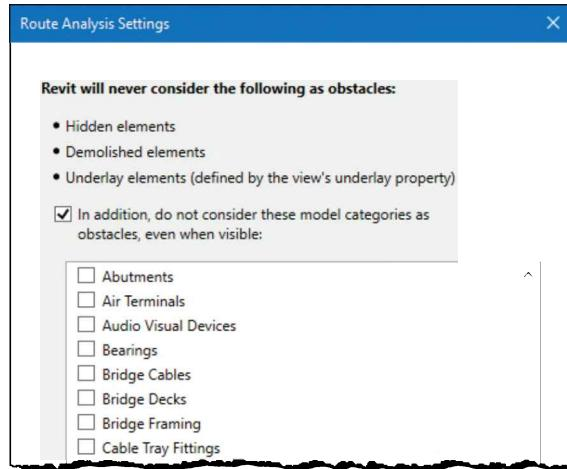

FIGURE 5-1.7 Route Analysis dialog (partial view)
13. Click the **Edit** button next to Route Analysis Settings (Figure 5-1.7). Review the settings.